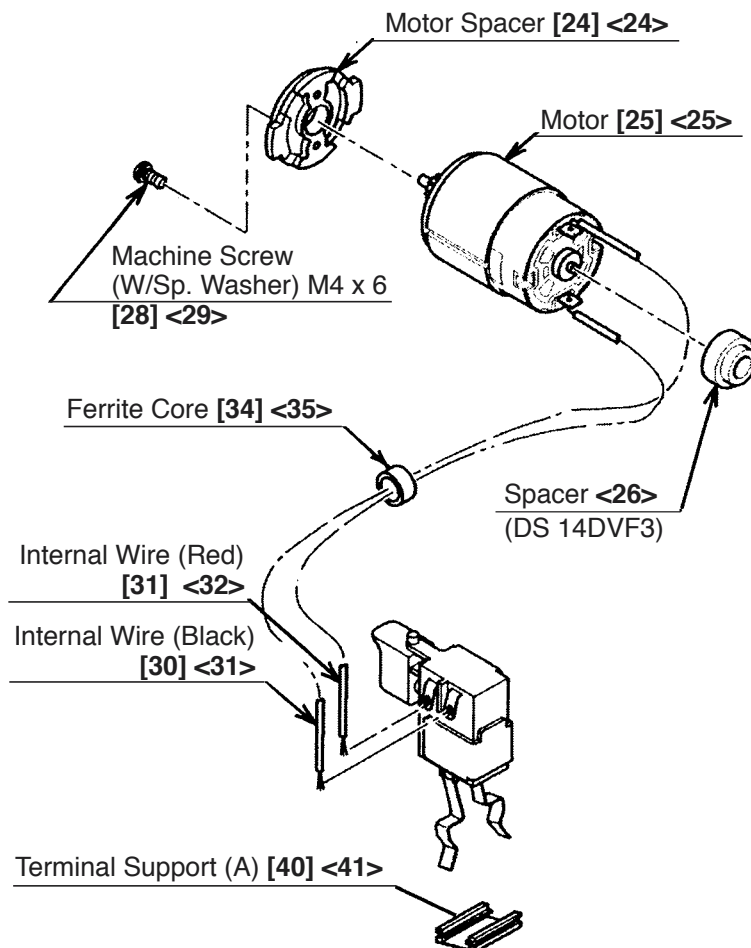

Fig. 4
- (a) Perform wiring according to the wiring diagram (Fig. 4).